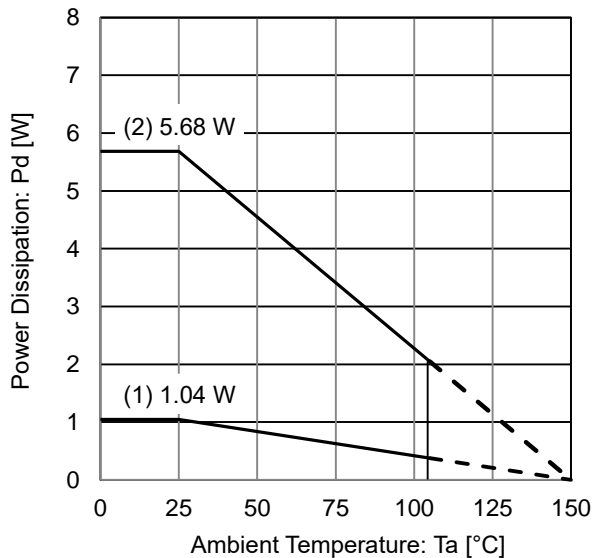

Figure 28. Power Dissipation
When operating at temperature more than $T_a = 25 \text{ }^\circ\text{C}$, please refer to the power dissipation characteristic curve shown in Figure 28.
Figure 28 show the acceptable power dissipation characteristic curves of the HRP5 package. Even when the ambient temperature (T_a) is at normal temperature ($25 \text{ }^\circ\text{C}$), the chip junction temperature (T_j) may be quite high so please operate the IC at temperatures less than the acceptable power dissipation.
$$\left(\begin{array}{l} \text{Figure 28. (2) } \theta_{ja} = 22 \text{ }^\circ\text{C/W} \rightarrow -45.5 \text{ mW/}^\circ\text{C} \\ 25 \text{ }^\circ\text{C} = 5.68 \text{ W} \rightarrow 85 \text{ }^\circ\text{C} = 2.953 \text{ W} \end{array} \right)$$